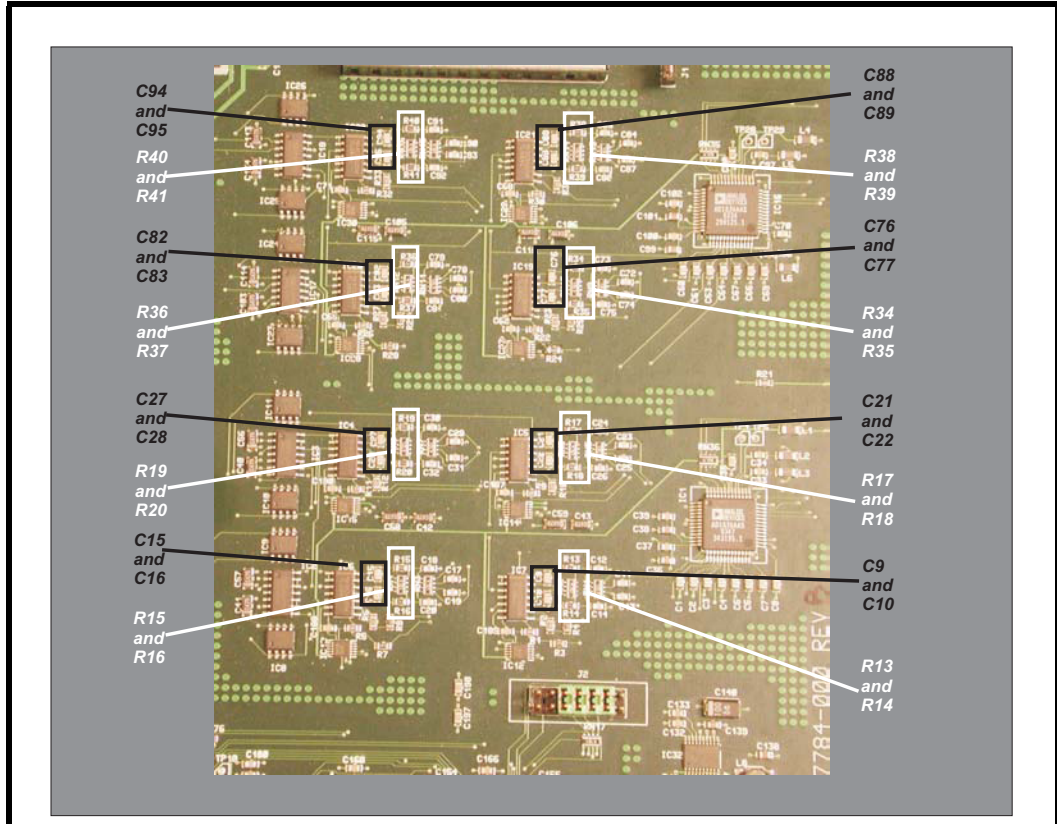

FIGURE 2. Resistors and capacitors that need to change to upgrade the gain amount.
3. On the front card, replace the following 16 capacitors with 12pF capacitor (part number 723411-14). See figure 2.